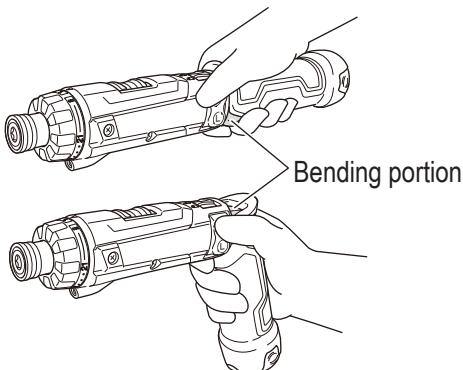

Fig. 1
2. Make sure to securely hold the tool during operation. Failure to do so can result in accidents or injuries. (Fig. 1)
3. Use this tool in straight configuration or pistol configuration according to the purpose of the work. When bending the tool body or straightening it again, do not touch the bending portion. (Fig. 1) Your finger or other part of the hand may be pinched by the bending portion resulting in possible injury (Fig. 1).